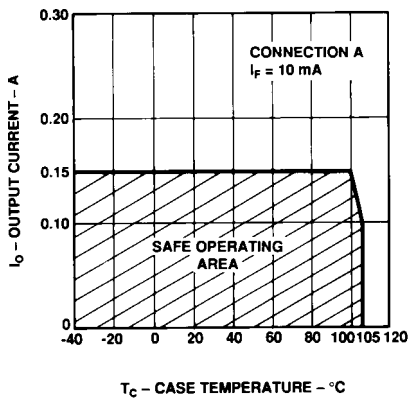
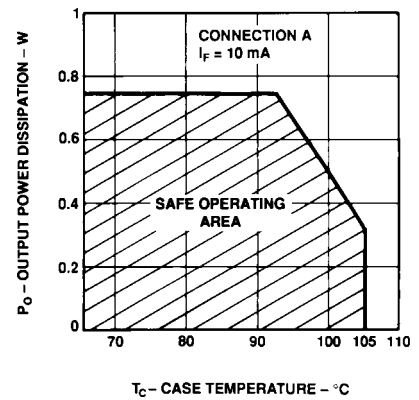

Figure 3B. Maximum Average Output Current Rating vs. Case Temperature.
Figure 4. Output Power Derating vs. Case Temperature.
- For derating, see Figure 4. The output power P_O derating curve is obtained when the part is handling the maximum average output current I_O as shown in Figure 3.
Derating curves are shown in Figures 3 and 4. Figure 3 specifies the maximum average output current allowable for a given ambient or case temperature. Figure 4 specifies the output power dissipation allowable for a given case temperature. Above a case temperature of 93°C, the maximum allowable output current and power dissipation are
related by the expression $R_{SS} = P_O(\max)/(I_O(\max))^2$ from which R_{SS} can be calculated. Staying within the safe area assures that the steady state junction temperatures remain less than 125°C. As an example, for a case temperature of 100°C, Figure 4 shows that the output power dissipation should be limited to less than 0.5 watts. A check with Figure 3B shows that the output current should be limited to less than 150 mA. This yields an R_{SS} of 22 Ω .